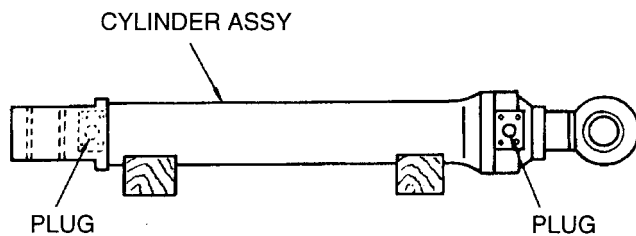

Fig. 1-36 How to store the cylinder
- 2) After completing the test, apply a plug to each port and store it (Fig. 1-36).